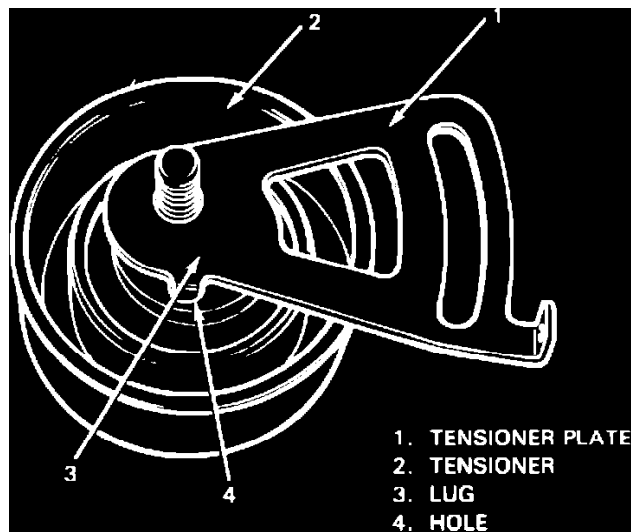

**Fig. 8 Timing belt removal**
17. Loosen tensioner bolt and stud, and remove belt as shown in **Fig. 8**.